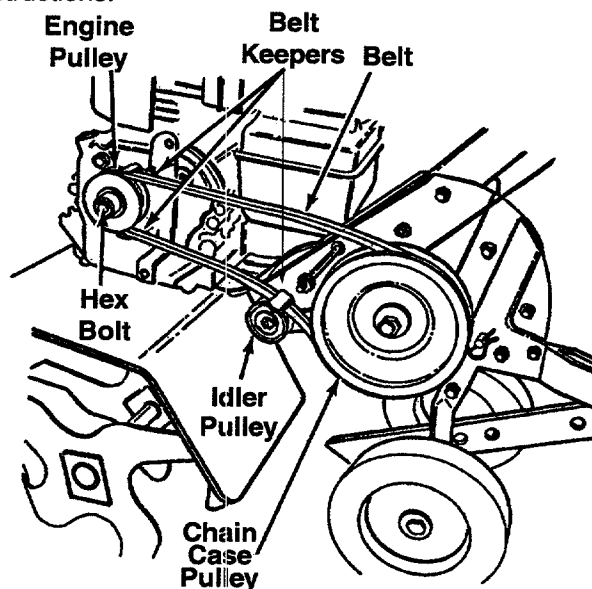

Figure 18
(Refer to Figure 18)
5. Hold the engine pulley and remove the hex bolt, lock washer and flat washer, which secure the engine pulley. See Figure 18. Slide the pulley half out from between the belt keepers. Remove the belt.
**NOTE:** Upon reassembly, make certain the belt is routed in between the belt keepers at the engine pulley, and idler pulley as shown in Figure 18. Be certain to adjust the clutch control as instructed in the final clutch adjustment section of assembly instructions.